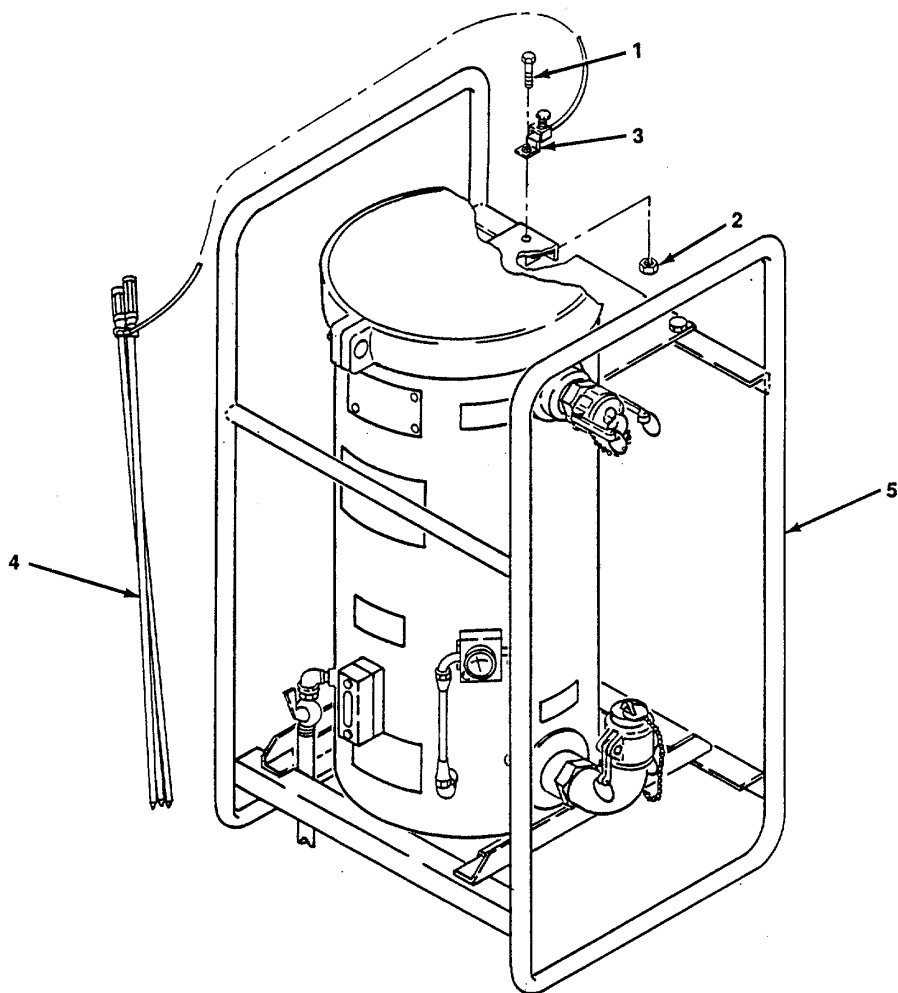

Figure 4-18. Grounding Rod Assembly, Replace.
b. Replace. (figure 4-18)
- (1) Remove screw (1) and locknut (2) securing clamp (3) and remove.
- (2) Remove grounding rods (4) from frame (5).
- (3) Position grounding rods (4) on frame (5).
- (4) Install clamp (3) and secure with screw (1) and nut (2).